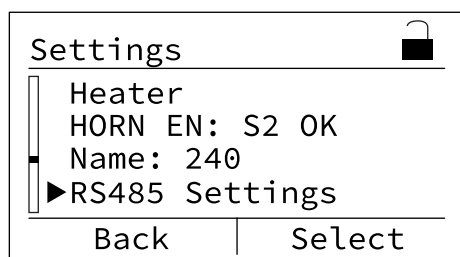

Figure 1-19. Navigate to “RS485 Settings”
5. See Figure 1-19. Navigate to “RS485 Settings” and press OK.